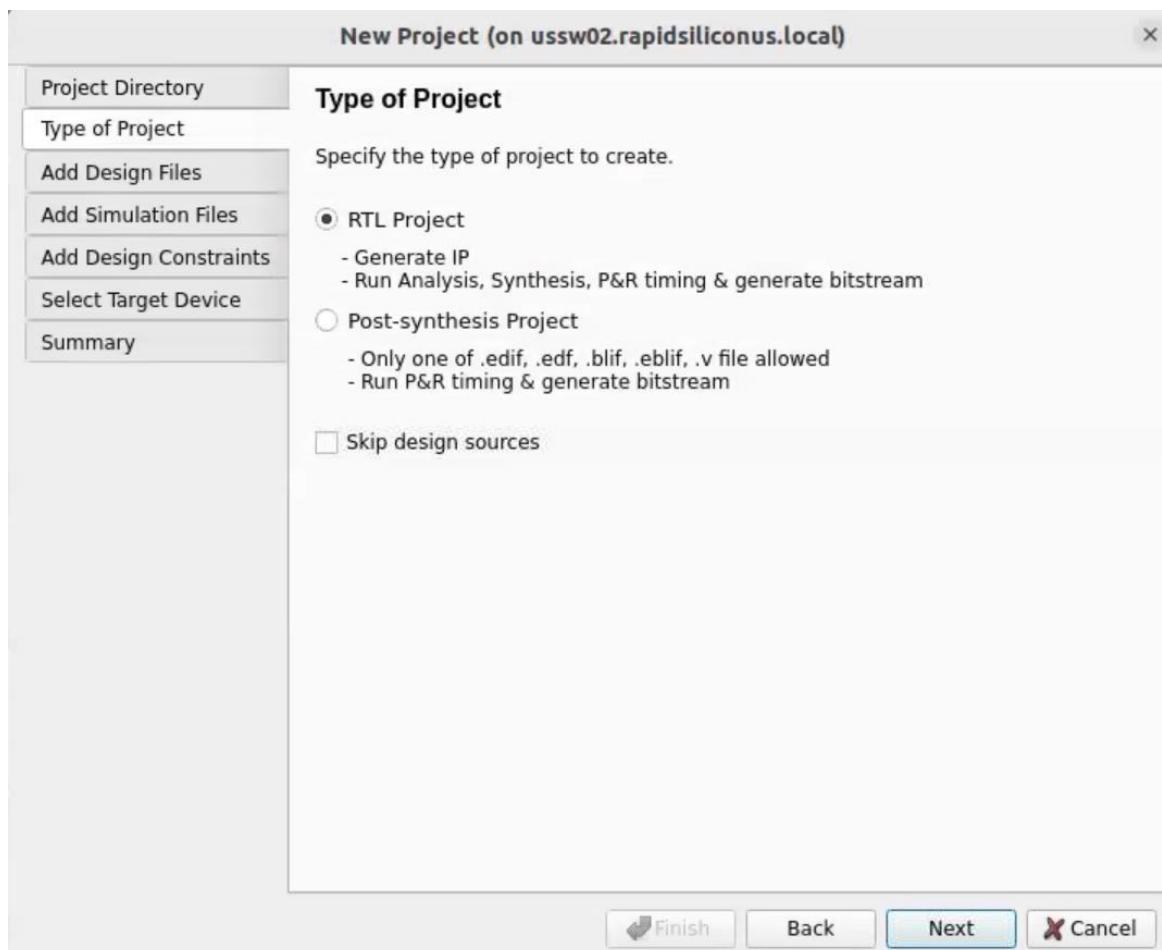

Figure 11. Type of Project
2. Type of Project: User can skip the design sources and add them later using the source view. Refer to Figure 11